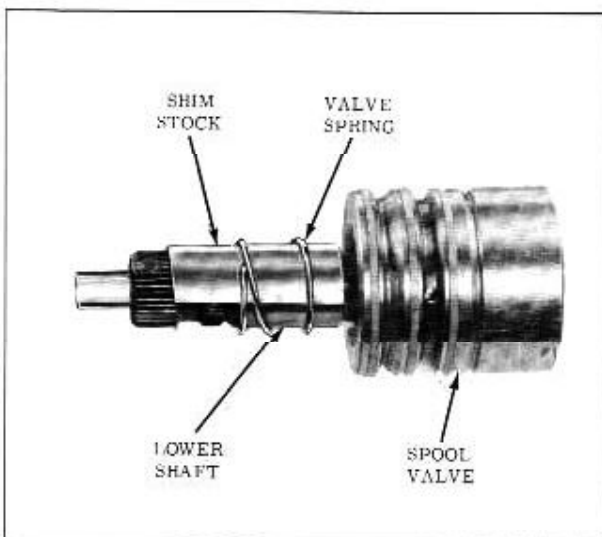

Fig. 4-87 Installing Valve Spring
6. Slide the valve spring over the lower shaft and down into the spool valve until the top coil of the spring is in the shaft groove. (Fig. 4-87)